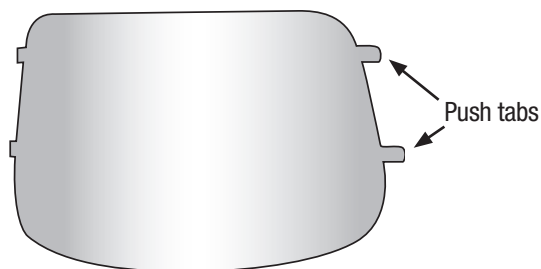

Fig. 19b
- b. While looking at the front of the welding helmet, push out on the grinding visor tabs located on the right side to remove the clear visor (Fig. 19b).